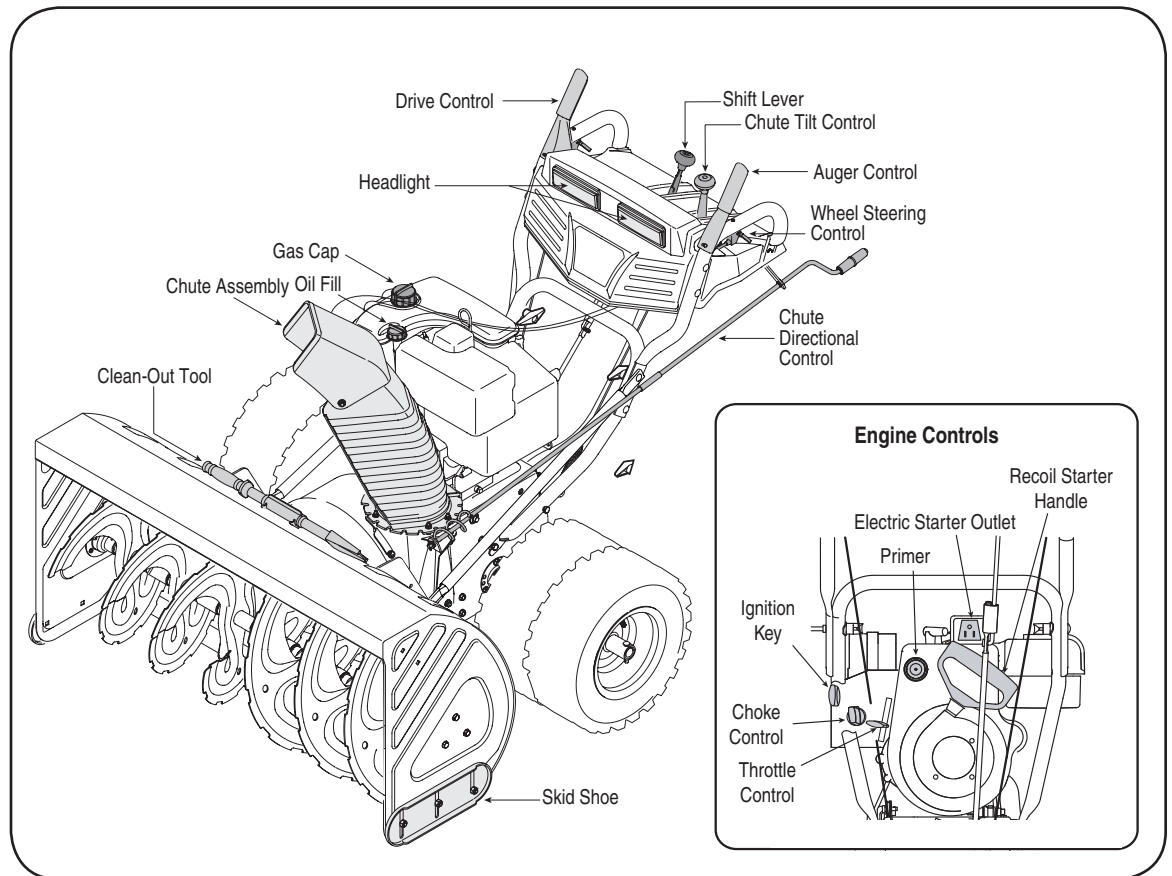

Figure 14
- Move the shift lever into sixth (6) position. See Figure 14.